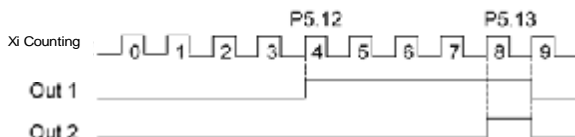

Fig.6-18 Schematic diagram for the preset and reaching counting value reference
2. The terminal Yi is set to "10: Preset counting value action", and the action sequence is shown as Out1 in Fig.6-18. Effective level will be output when the counting value is between the values of P5.12 and P5.13.
in Fig.6-18. Effective level will be output and kept till the counting value changes when the counting value reaches the value of P5.13.